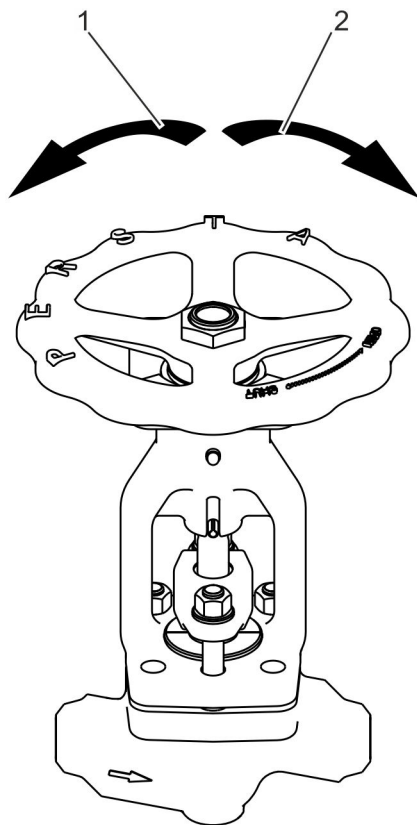

Fig. 19: Manual actuator: Activating the handwheel in an emergency
- Turn clockwise (Fig. 19/2): Close valve.
- Turn counterclockwise (Fig. 19/1): Open valve.